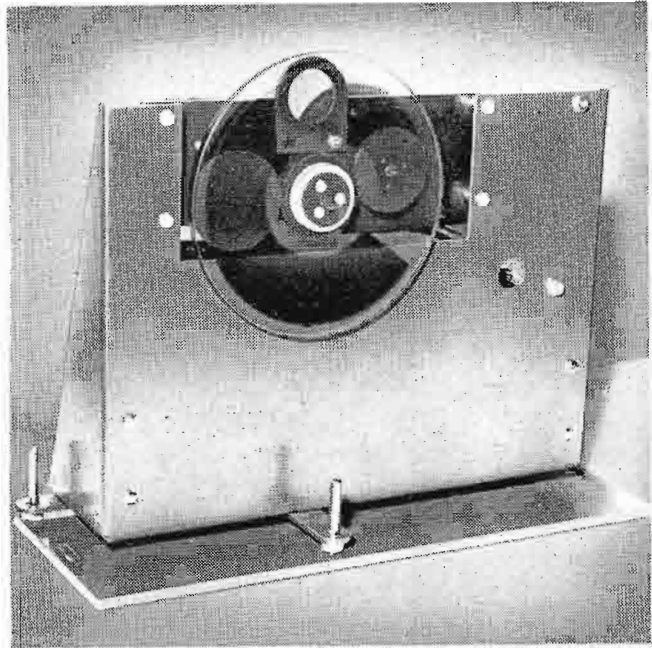

FIG. 7. A variable neutral density disk used in front of the projectors is the ideal method for video level control.
- 4) Varying the source of light with a variable neutral density disk (Fig. 7) is an ideal method of video level control. This system permits all equipment adjustments to remain fixed at the optimum value.